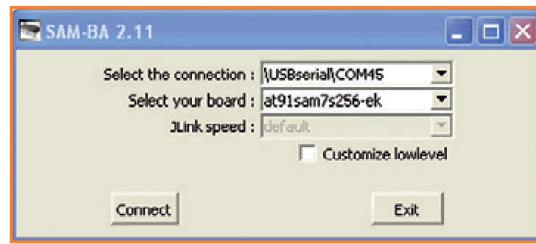

Figure 6. Programming with SAM-BA is very straightforward.
**Figure 6.** Click on 'connect' to start communication with the network tester. Then select the binary file for the microcontroller and click on 'program'. The firmware will then be loaded into the flash memory of the ARM processor. Now the processor must be reset, either by power cycling or pushing reset button S1. D1 should blink every two or three seconds, signaling the micro is running.